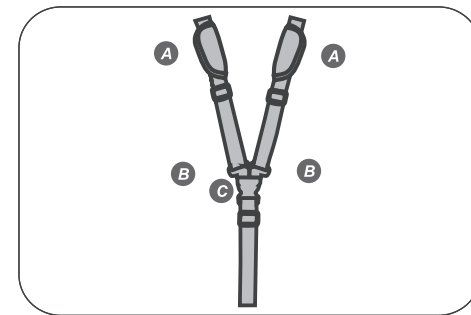

Fig. 21
28. Place the Harness Pads **A** around the child's shoulders. Interlock the Buckle Tongues **B**, then push them into the Buckle **C** until it “clicks” (See Figure 21).